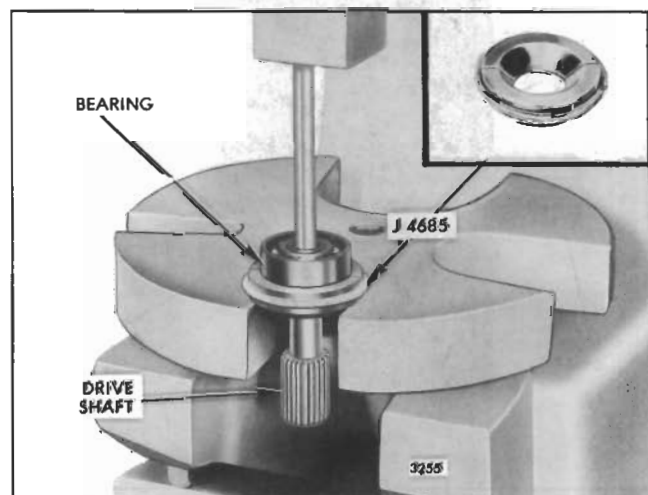

Fig. 4 - Removing Bearing from Drive Gear
- b. Support the drive gear assembly and remover on the bed of an arbor press (Fig. 4). Place a brass rod on the end of the drive shaft, then press the drive gear and shaft assembly from the bearing. Catch the drive gear and shaft by hand when pressed from the bearing.